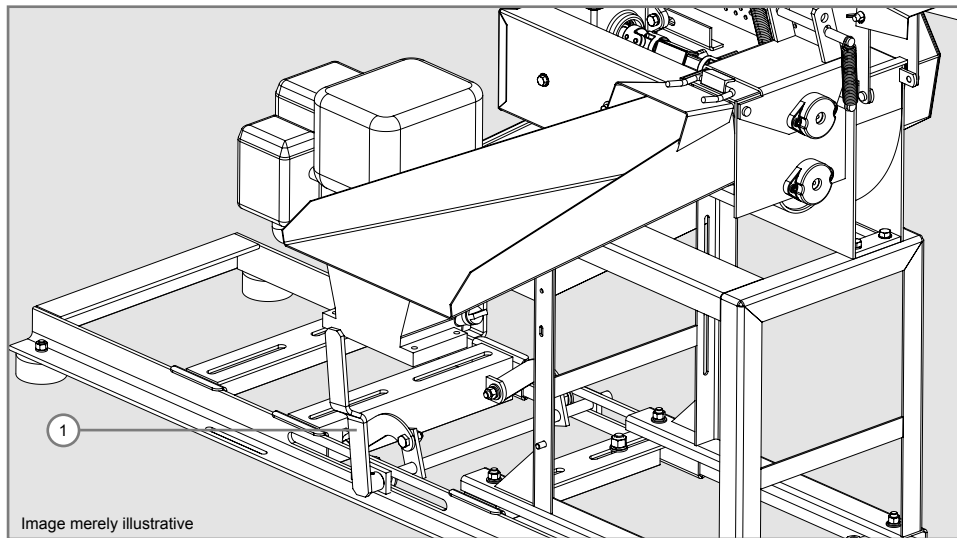

Figure 1
Start the motor only if the belt tensioner lever (1) is in release position as per Figure 1, that is, without stretching the belt as shown in the image above. Then, in that position, start the engine and after reaching full rotation push the belt tensioner lever (1) in the direction as shown in the Figure 2 by indexing the motor on the base and ensuring that the belts will be tensioned according shredder functioning specifications. The belt tensioner lever can be only be tensioned when the motor is fully operational; if the motor is switched off it may cause damages do motor.